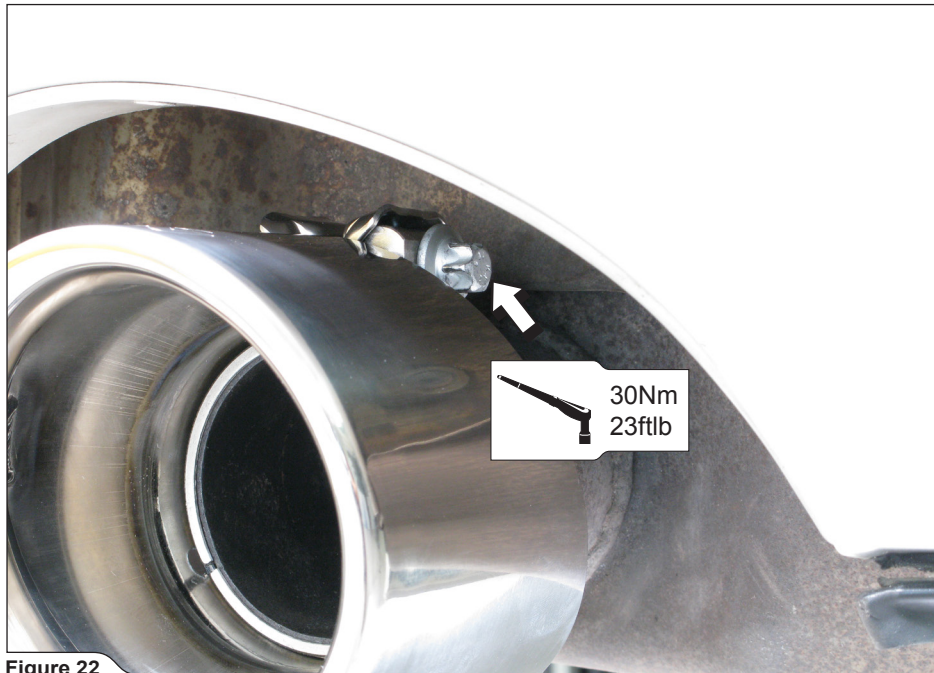

Figure 22
9. **For Tail Pipes only:** tighten the Tail Pipe clamps to a specified torque (**Figure 22**).